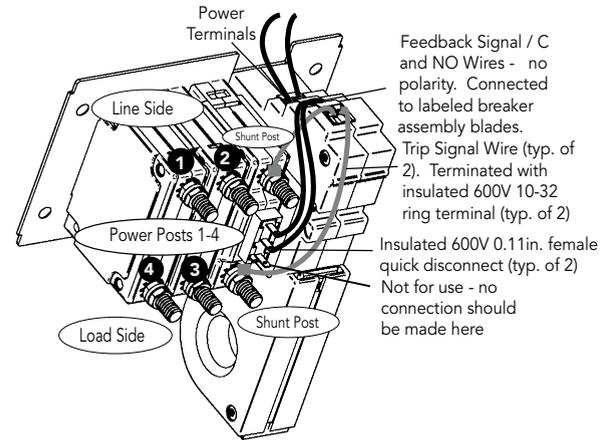

Figure 6. Pre-Wired GFPD-150V / Breaker Assembly
The GFPD-150V and breakers are assembled at the factory. Breaker shunt, (C) and (NO) leads are pre-wired to the GFPD-150V terminals - See Figure 6. The GFPD-150V external voltage source connections are described in the next section - Completing Wiring.
### 3.2.2 Completing Wiring - See Figures 6 and 7
**Step 2.** Crimp the supplied ring terminals on the ends of the (+) and (-) solar<->breaker conductors, and connect solar array (+) wire to post (4) (load side), and solar array (-) wire to post (2) (line side) using the supplied hardware (see Figure 6).
**Step 3.** Crimp the supplied ring terminals on the breaker side ends of the (+) and (-) breaker <->controller conductors. Connect breaker side (+) wire to post (1) (line side), and breaker side (-) wire to post (3) (load side) using the supplied hardware (see Figure 6).